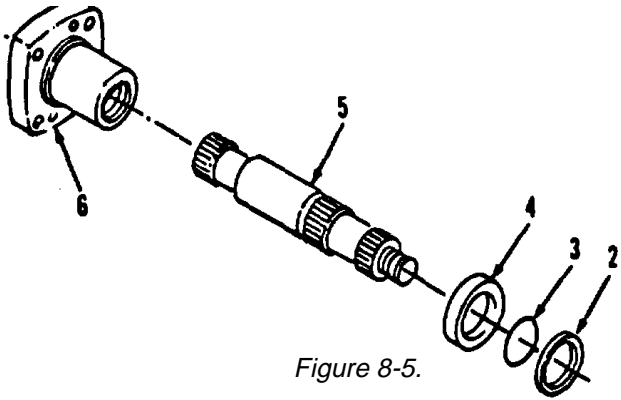

Figure 8-5.
- 10. Install shaft (5), bearing (4) and snap rings (3 and 2) into housing (6, Figure 8-5).